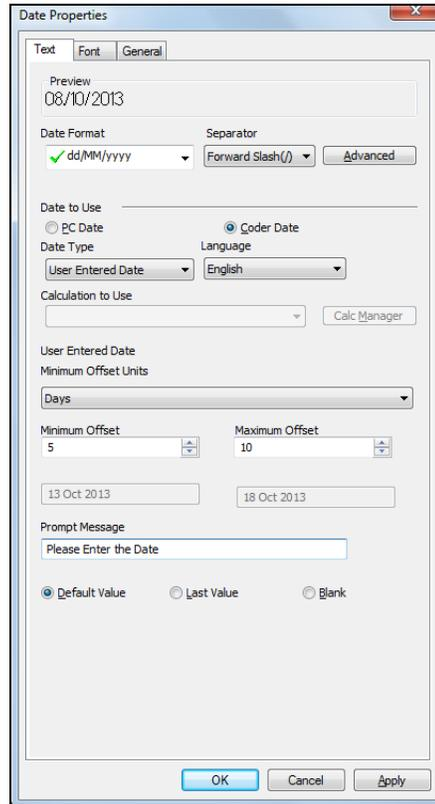

Figure 6-3: Date Properties-Text tab
- 5 In the *Text* tab, select the option *User Entered Date* from the *Date Type* drop down list (see Figure 6-3). Selecting this option lets CLARiSOFT send the required commands to the coder to instruct it to prompt for a date selection during job set up.